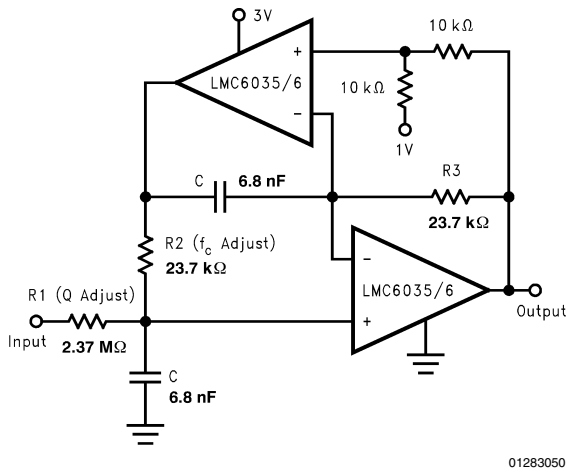

FIGURE 7. 2 Pole, 1kHz Active, Bandpass Filter
The dual amplifier bandpass (DABP) filter features the ability to independently adjust  $f_c$  and Q. In most other bandpass topologies, the  $f_c$  and Q adjustments interact with each other. The DABP filter also offers both low sensitivity to component values and high Qs. The following application of Figure 7, provides a 1kHz center frequency and a Q of 100.
1. First choose a center frequency ( $f_c$ ). Figure 7 represents component values that were obtained from the following computation for a center frequency of 1kHz.  $R2 = R3 = 1/(2\pi f_c C)$  Given:  $f_c = 1\text{kHz}$  and  $C_{(\text{chosen})} = 6.8\text{nF}$